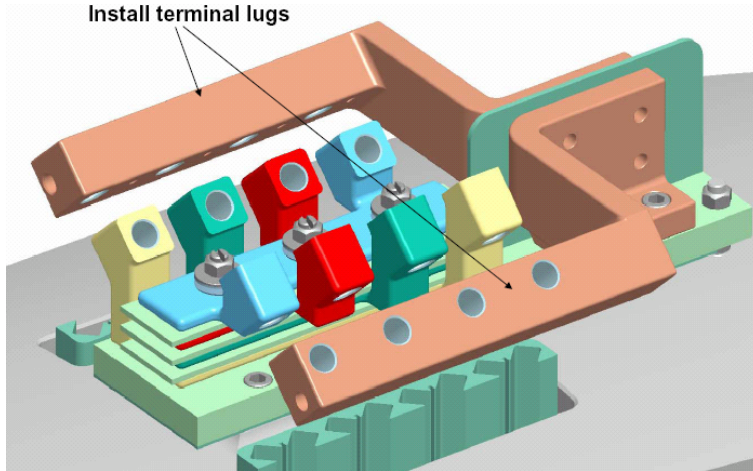

Figure 23- Install Terminal Lugs
- 6.19.2.5 Install and epoxy in-place the insulating divider plate in the groove provided in the G-11 base. Mount the terminal lugs to the G-11 base plate and secure in position with appropriate hardware. **Figure 23- Install Terminal Lugs**